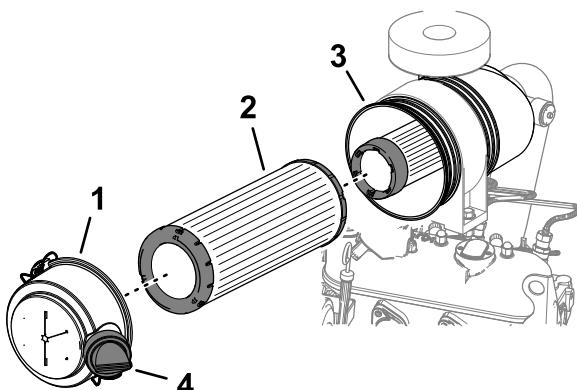

Figure 62
5. Remove the primary air filter (Figure 62).